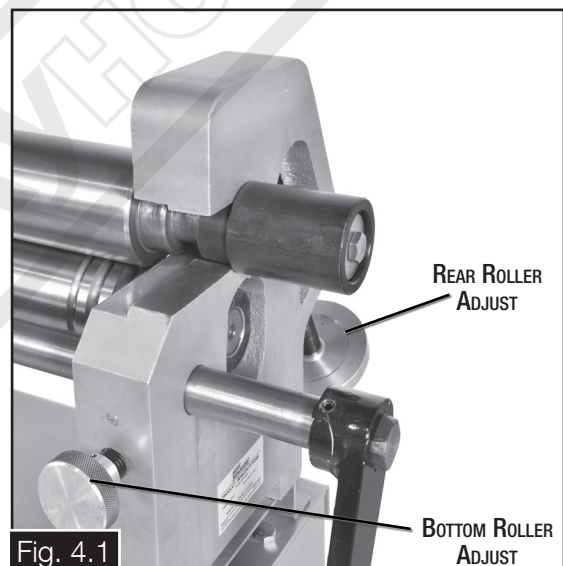

Fig. 4.1
1. Adjust the thickness knobs to the lower roller so that it is approximately 3mm below the top roller. (Fig. 4.1)